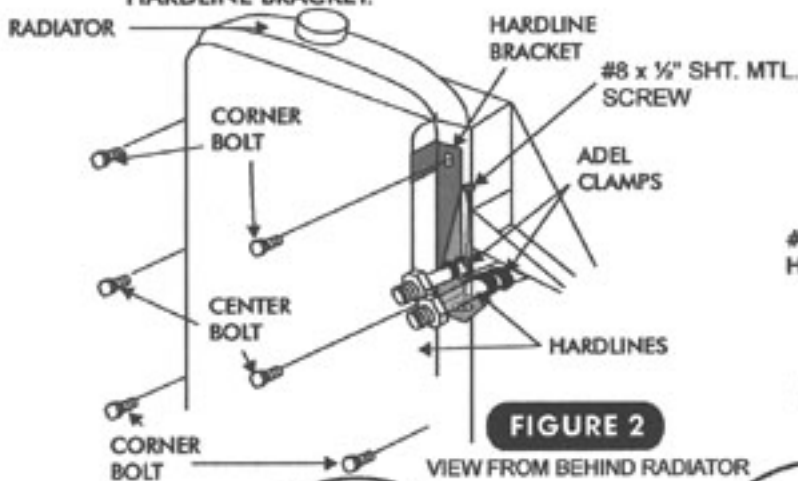
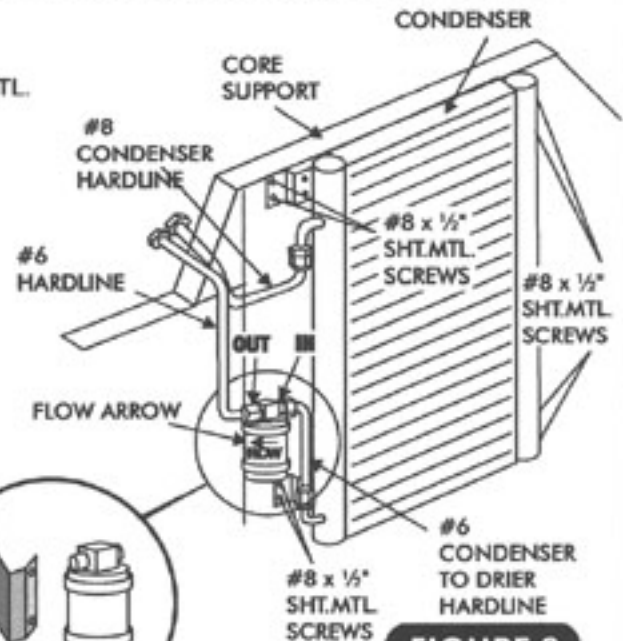
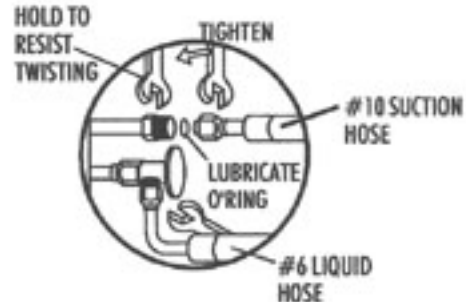

FIGURE 2
FIGURE 3
FIGURE 8
- 1. LUBRICATE AND ATTACH #6 CONDENSER TO DRIER HARDLINE (SEE FIGURE 3).
- 2. LUBRICATE AND ATTACH #6 DRIER HARDLINE TO DRIER OUTLET AND THRU CORE SUPPORT TO HARDLINE BRACKET. SEE FIGURE 2 AND FIGURE 3, ABOVE.
- 3. LUBRICATE AND ATTACH THE #8 CONDENSER HARDLINE TO THE TOP CONDENSER OUTLET AND THRU CORE SUPPORT TO HARDLINE BRACKET. SEE FIGURE 2 & FIGURE 3, ABOVE.
- 4. USING TWO (2) ADEL CLAMPS ATTACH THE HARDLINES TO THE BRACKET WITH A #8 x $\frac{1}{2}$ " SHEET METAL SCREW. SEE FIGURE 2.
- 5. MAKE SURE CONDENSER IS LEVEL AND CENTERED SIDE TO SIDE. DRILL PILOT HOLES AND ATTACH THE FOUR (4) CORNER BRACKETS USING EIGHT (8) #8 x $\frac{1}{2}$ " SHT.MTL. SCREWS.
- 6. ATTACH DRIER MOUNTING BRACKET TO RADIATOR FLANGE USING TWO (2) #8 x $\frac{1}{2}$ " SHT.MTL. SCREWS.
- 7. TIGHTEN LINE CONNECTIONS USING TWO (2) WRENCHES. SEE FIGURE 8, PAGE 4.
- 9 REMOVE #6, #8 AND #10 HOSES. FOLLOW THE CRIMPING INSTRUCTIONS SUPPLIED WITH YOUR HOSE KIT AND CRIMP ALL HOSE CONNECTIONS. RE-INSTALL ALL HOSES USING O'RINGS FOR THE FINAL CONNECTION. BE SURE TO LUBRICATE O'RINGS AND TIGHTEN PROPERLY. SEE FIGURE 8, PAGE 4.